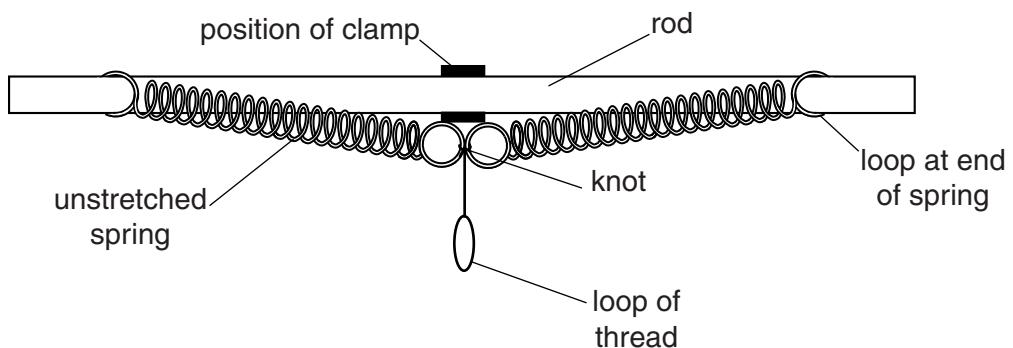

Fig. 4.1
- The diameter of the rod should be the same as the diameter of the loops at the ends of the springs so that the loops are a tight fit onto the rod. The loop of one spring should be pushed onto one end of the rod and a loop of the second spring should be pushed onto the other end. The loops should be symmetrical about the centre of the rod and should be separated by about 8cm. The lower loops should then be tied together with the thread and a loop should be created at the end of the thread so that the slotted mass hanger can be suspended from the loop. In this position, the springs should be approximately horizontal and not under any tension. If necessary the Supervisor should adjust the separation of the loops so that the apparatus is set up as shown in Fig. 4.1.